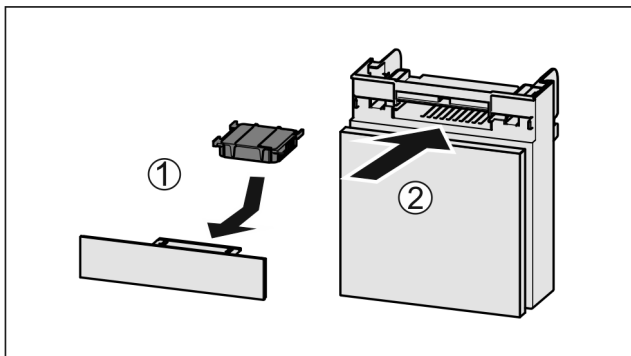

Fig. 191
- ▶ Insert the carbon filter as shown in the diagram Fig. 191 (1).
- ▶ Push the compartment in Fig. 191 (2).